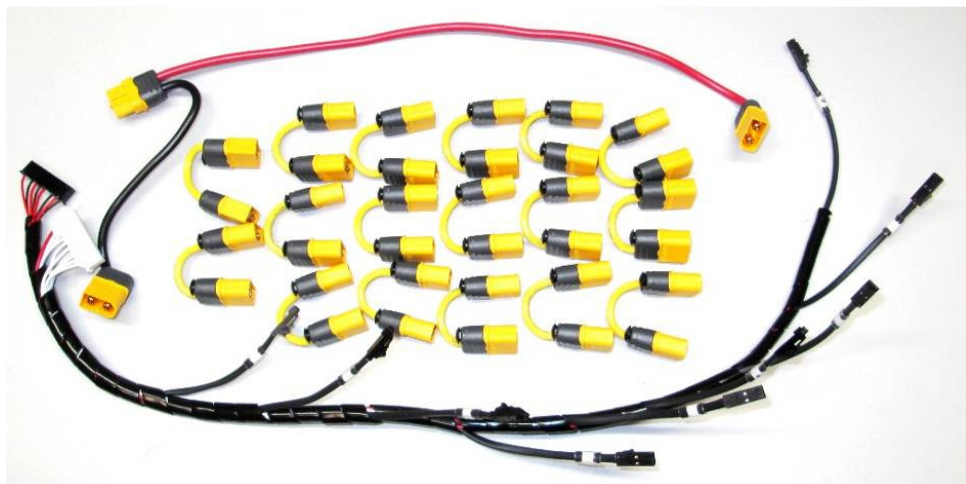

Figure 11 – Genesis 2.2 Wiring harness kit
1. Locate the Genesis 2.2 and SW wiring harness kit (Figure 11)